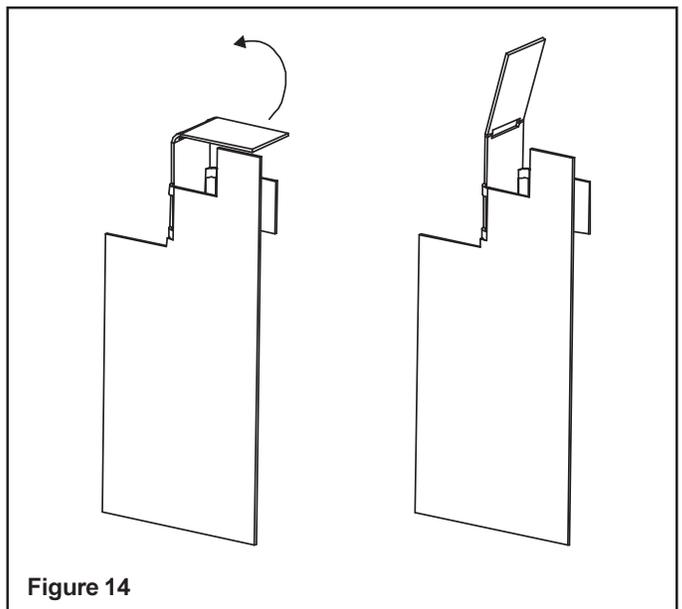

Figure 14
- Bend top retaining tab of grate shipping support into vertical position (see Figure 14).